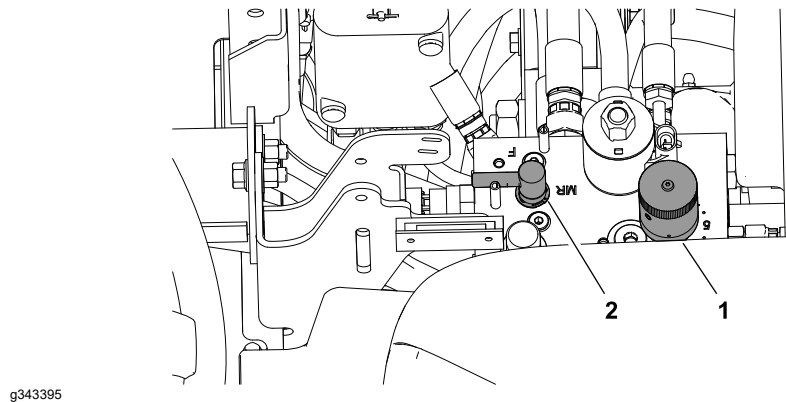

Figure 167
3. Remove the console cover and locate the reel speed selector knob and backlap lever on the hydraulic manifold (Figure 167). Rotate the reel speed selector knob to position "1" and the backlap lever to the R (backlap) position.